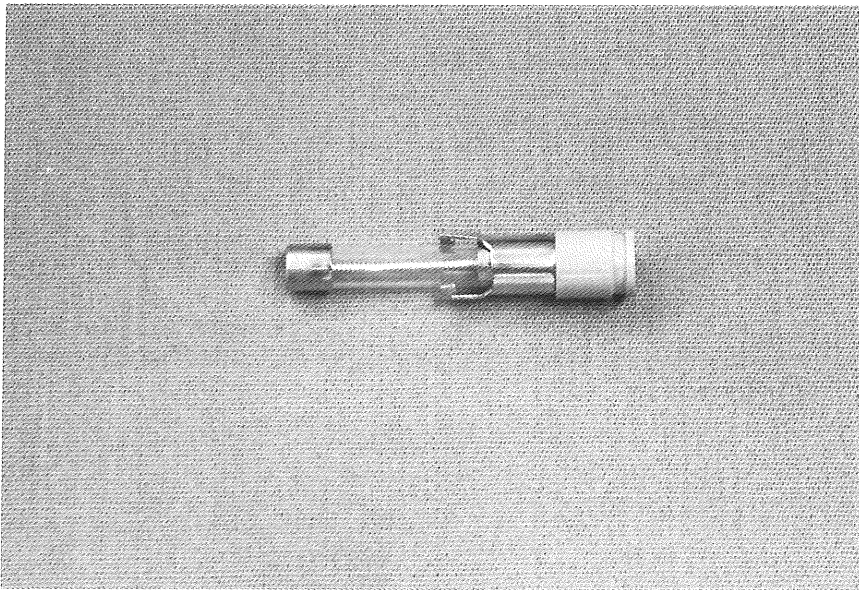

Figure 8-18.
4. Note the orientation of the fuse in the holder. Remove the fuse, then replace with the new fuse oriented in the same position. See Figure 8-18.